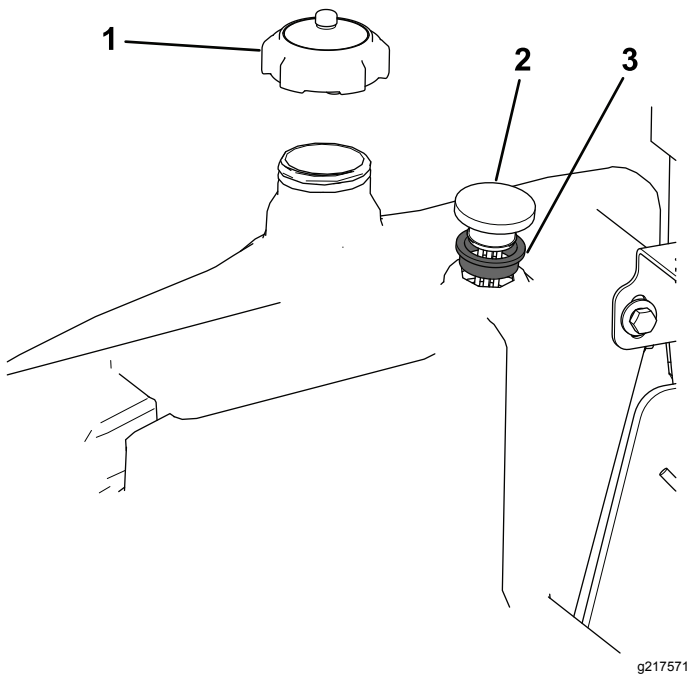

Figure 14
9. Remove the fuel-gauge grommet and install the grommet supplied with the kit (Figure 14).